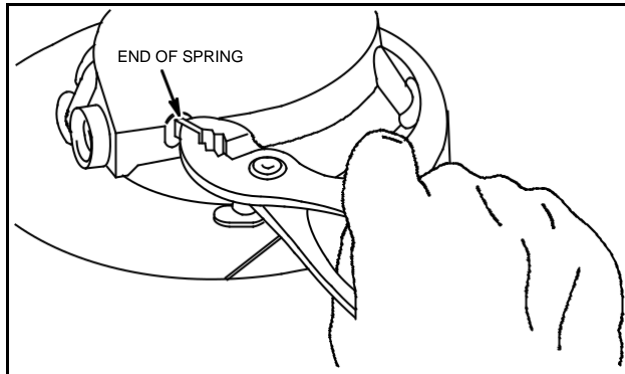

Fig. 600 – REMOVE SPRING
3. With rope removed, grasp outer end of rewind spring with pliers, Fig. 600, and pull out of housing as far as possible.